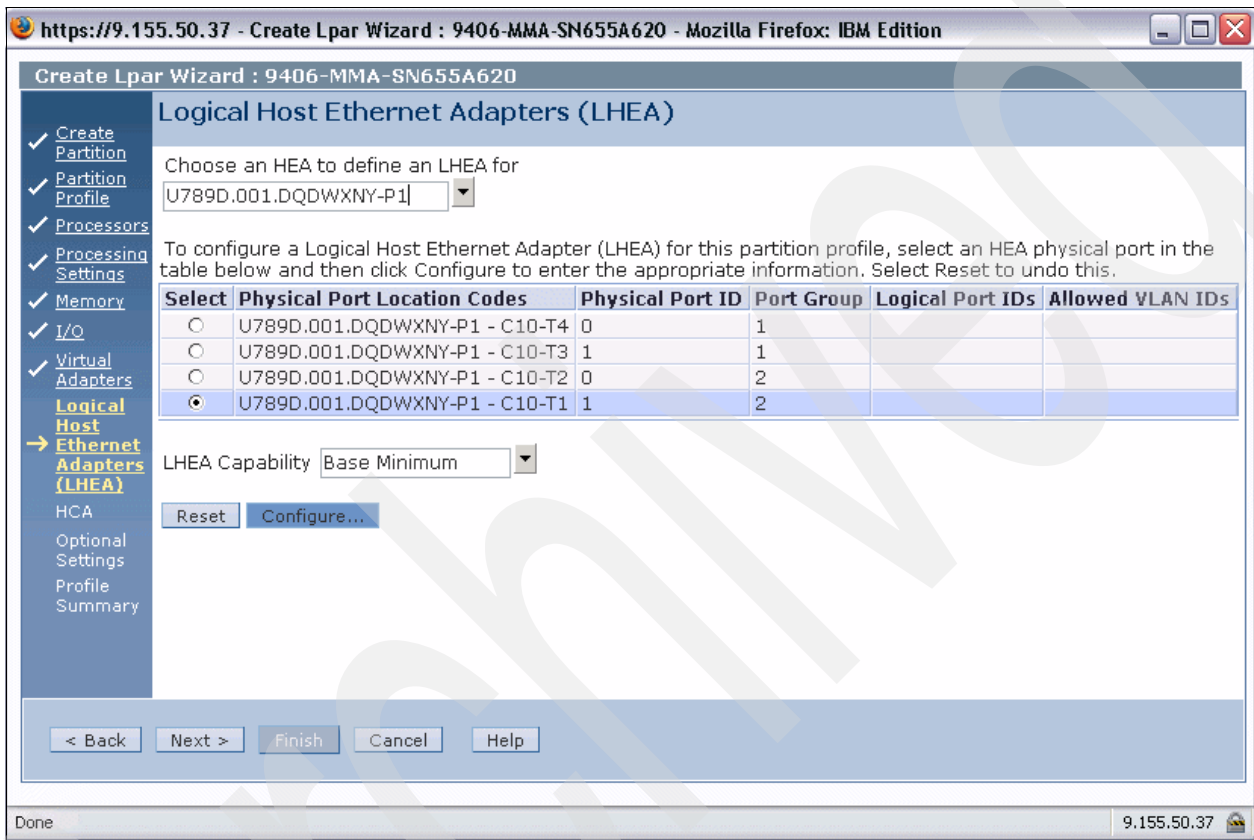

Figure 6-15 Create LPAR Logical Host Ethernet Adapters dialog
13. In the Logical Host Ethernet Adapters dialog shown in Figure 6-15 we select the CEC's HEA that we want to use from the drop-down list box, select the physical port, and choose **Configure** to proceed.
**Note:** We leave the default LHEA capability setting of Base Minimum, as the LHEA capability queuing options are not implemented yet by PHYP or the operating system (OS).